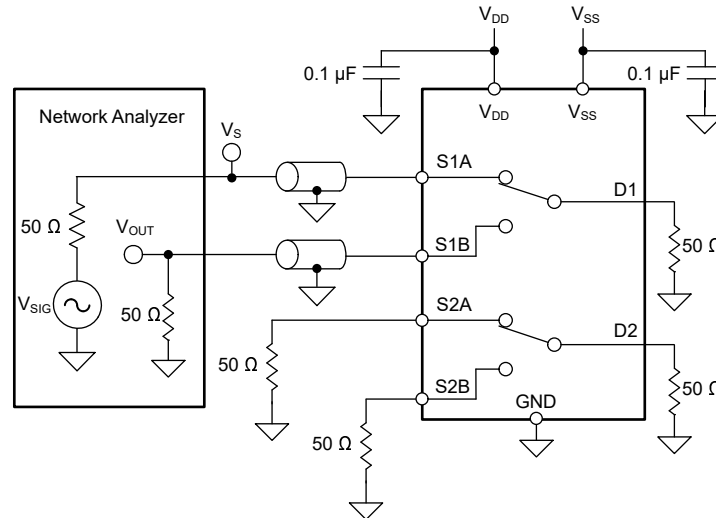

图 7-15. Intra-Channel Crosstalk Measurement Setup
1. Intra-channel crosstalk ($X_{TALK(INTRA)}$): the voltage at the source pin (S_x) of an off-switch input, when a 1- V_{RMS} signal is applied at the source pin of an on-switch input in the same channel, as shown in 图 7-15.